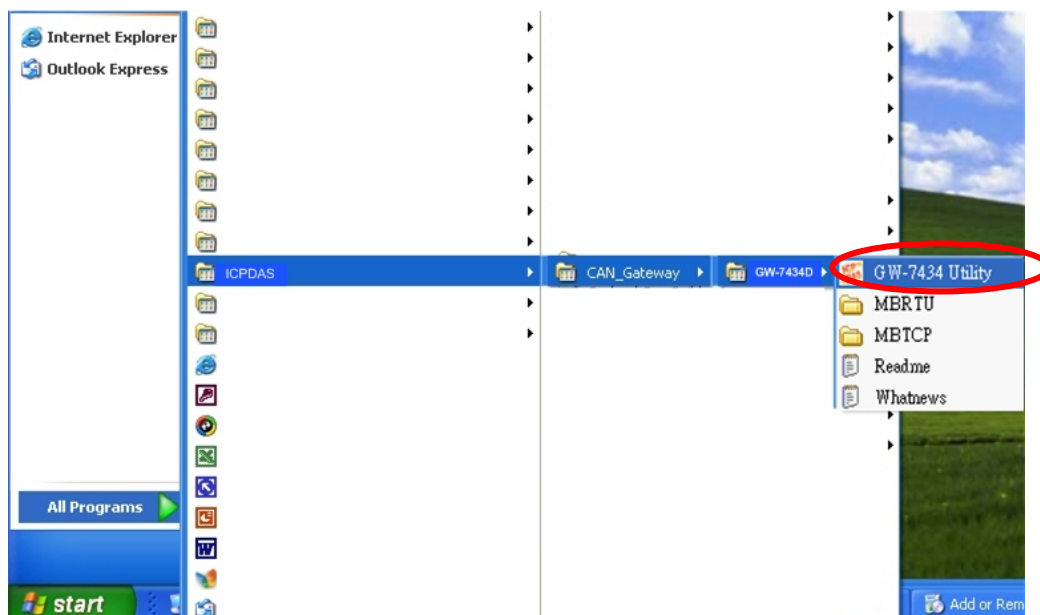

Figure 5-6: You can find “GW-7434D Utility“ at the “Start” in the task bar
**Step 7:** After finishing the installation of the GW-7434D Utility, users can find it as shown in figure 5-6.